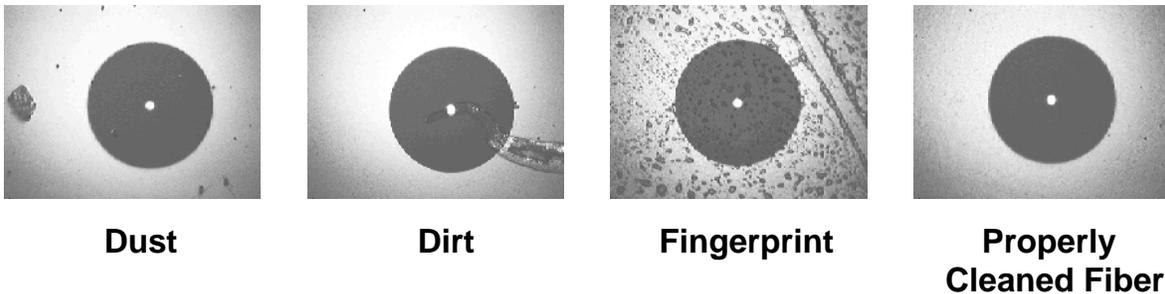

Figure 6: Examples of fiber connector faces as viewed from the connector inspection microscope. (From: http://www.cletop.com/user/Cleaning_Paper.htm)
3. Inspect the connector again using the fiberscope. Only if the entire connector surface is as pristine as the properly cleaned fiber in Figure 6 can it be installed into a fiber bulkhead receptacle.